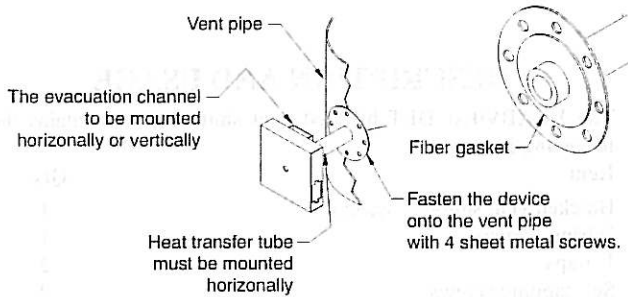

Fig. 2 – Mounting Transfer Tube and Evacuation Channel
2. The heat transfer tube must be mounted horizontally. However, the evacuation channel can be mounted either horizontally or vertically. (See Fig. 2 and 3.)